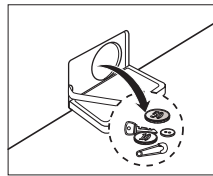

Fig. 18
- Remove foreign objects/fluff from inside and clean the interior. Fig.18